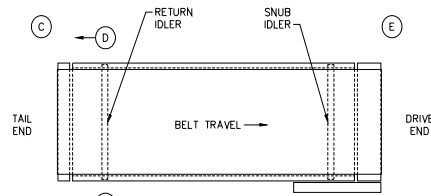

Figure 4
| <p>1) When belt is running toward drive pulley: (See "Figure 4")</p> <ul style="list-style-type: none"> If belt runs to right side (A) of tail pulley, move right side (B) of return idler toward tail pulley. If belt runs to the left side of tail pulley (C) move left side (D) of idler back towards tail pulley. If belt runs off right side of drive pulley (G) but is centered on tail pulley, move drive pulley out slightly on right side (G) using squaring adjustment. If belt runs off left side of drive pulley (E) move left side of drive pulley (E) out. | <p>2) continued</p> <ul style="list-style-type: none"> If belt runs to left side (G) of drive pulley, move left side (H) of snub roller toward drive pulley. If belt runs to left side of tail pulley (A) but is centered on drive pulley, move left side of tail pulley (A) out slightly using adjusting screws provided. If belt runs to right side of tail pulley (C) but is centered on drive pulley, move right side of tail pulley (C) out. Follow same procedure for conveyor with center drive. IMPORTANT NOTE: When making adjustments on snub and return idlers and pulleys, make adjustments in small increments (1/16" to 1/8" and give belt time to react before adjusting further. |